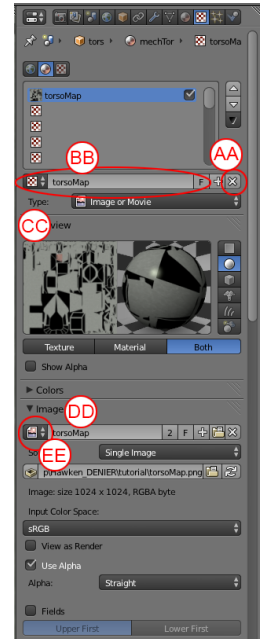

FIG. 08 – MAPPING THE PAINTED TEXTURE
Now you will need to map this new texture you created to the unique Material you made for this part (Fig. 08). Go into the TEXTURE panel. The material you made unique should still have your Seamless Metal Texture linked to it. (AA) Unlink that texture by clicking on the X next to the Browser.